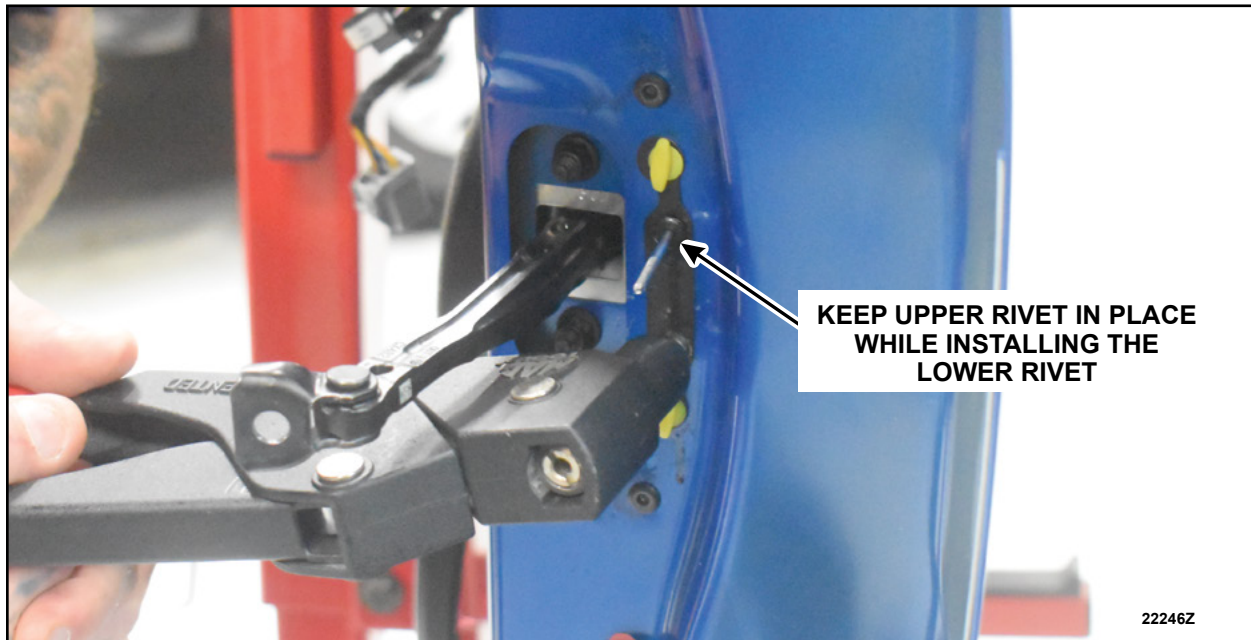

FIGURE 20
20. Place a rivet in each hole. Tighten the lower rivet while the upper rivet stays in place. See Figure 20.